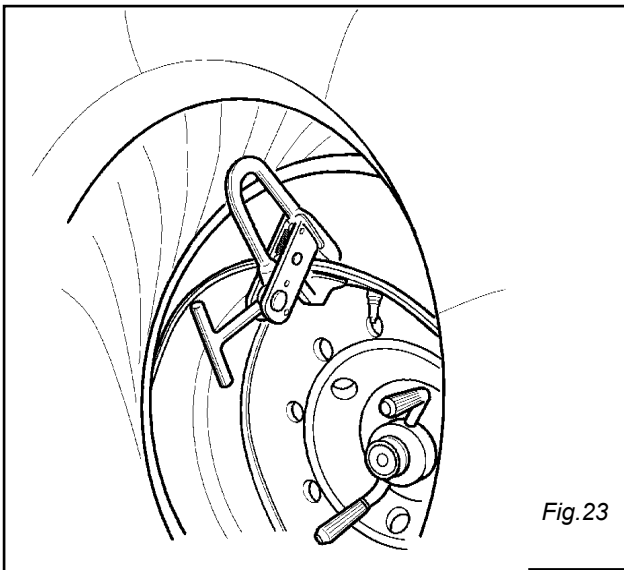

Fig. 23
5) Lift the rim with the tire hooked to it and turn it counterclockwise of about 6 - 8 inch (15-20 cm.) The tire will be positioned inclined across the rim (fig. 23)
6) Tip the tool-arm (17) in its working position, until it gets hooked.